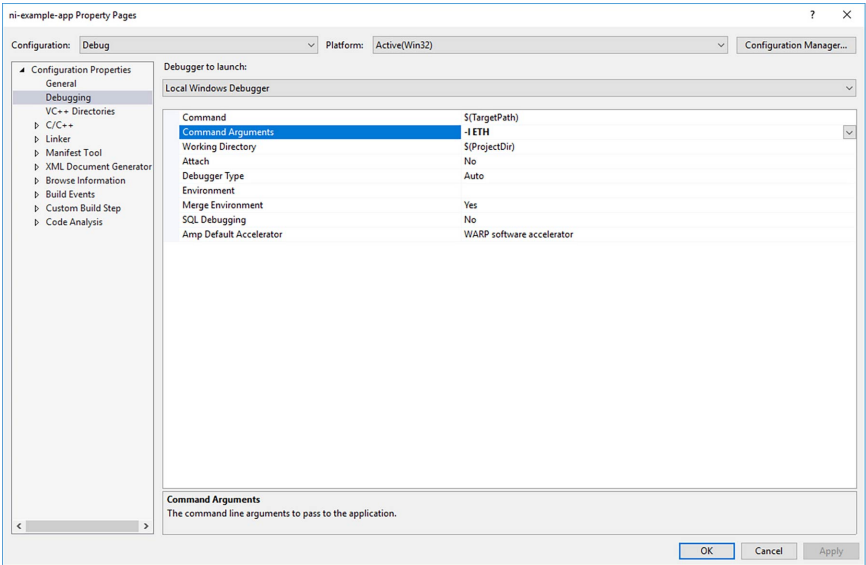

Figure 110. Ethernet Command Arguments
1. To see all available network devices, enter **-l ETH** under **Command Arguments** (see Figure 110).